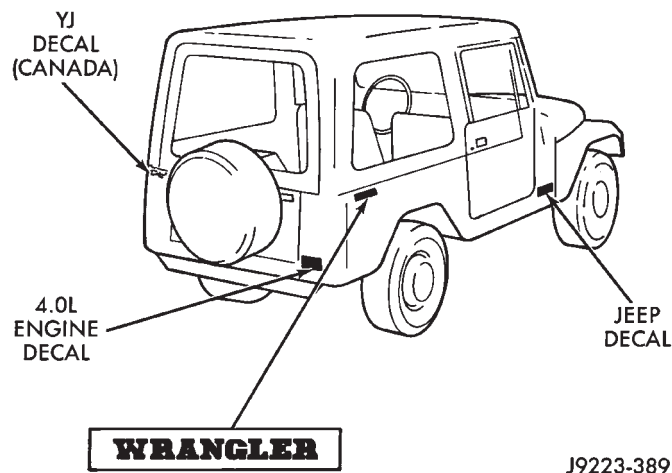

Fig. 75 YJ Nameplate Decals
All of the YJ exterior nameplates (Fig. 75) are attached to the vehicle panels with adhesive.
(1) Carefully pry the nameplate (Fig. 75) from the body outer panel.
(2) Clean the panel surface.
(3) Position the replacement nameplate (Fig. 75) on the panel and apply inward force to seat it.